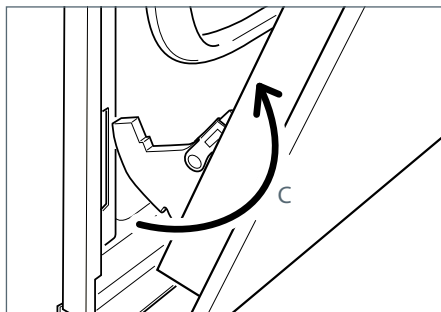

Fig. 63e
- 5 Withdraw the hinge hooks from their location following arrow "C" (Fig. 63e).